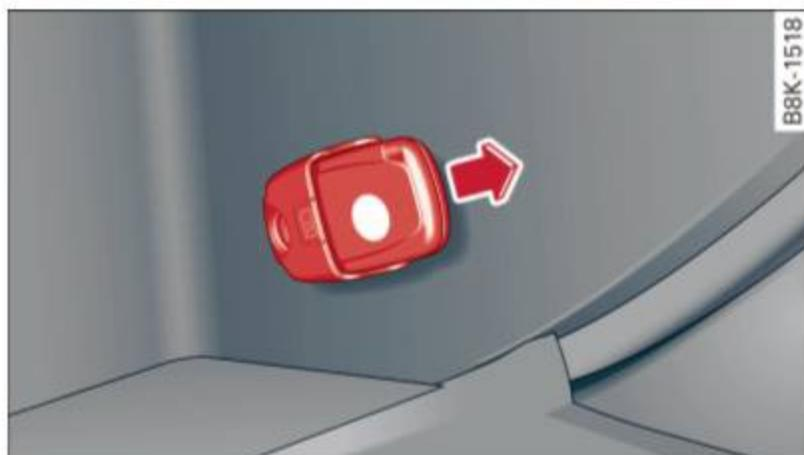

Fig. 95 Glove compartment: Adapter for emergency key
- ▶ Take the adapter for the emergency key out of the glove compartment ⇒ *fig. 95*.